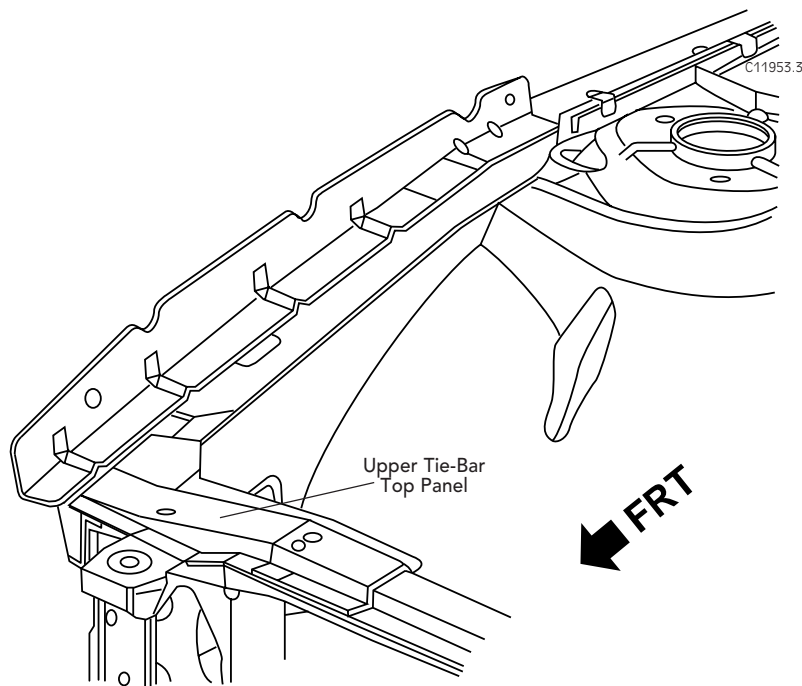

Fig. 4.4 — Upper Rail Assembly
- 5 Install the upper tie-bar top panels to the upper rail assembly and the radiator support assembly and plug weld as necessary (Fig. 4.4).